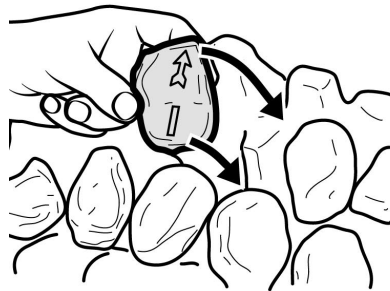

Figure 19. Second Row "Coal I"
17. Hold coal 'I' upright with the arrow pointing to the top. Locate coal 'I' as shown in figure 19.